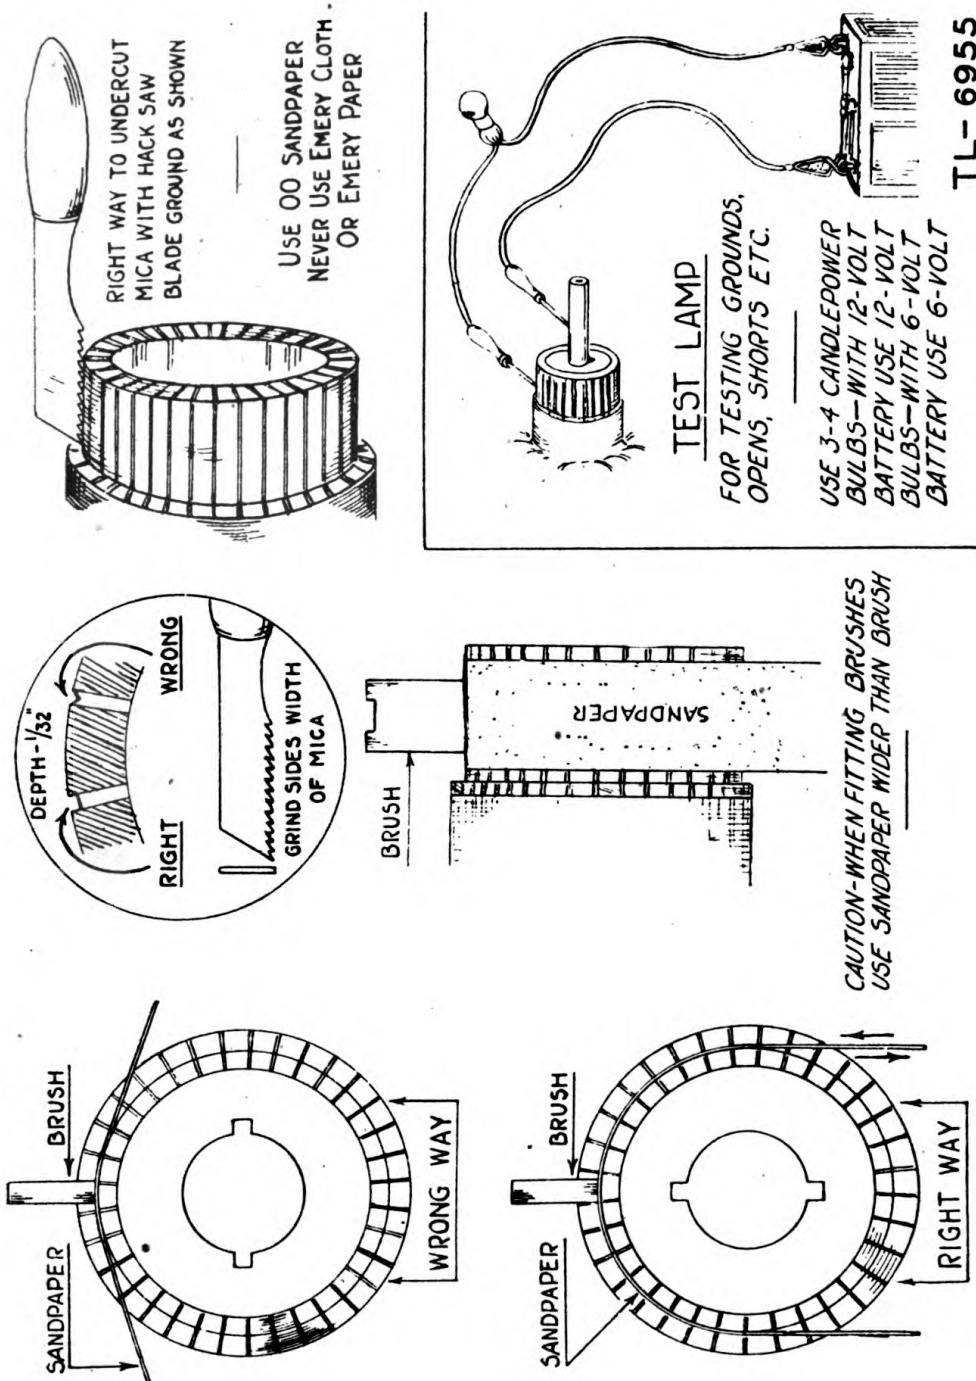

Figure 10.—Brush and commutator servicing
f. Mica is used for insulation between the commutator segments. When the armature is constructed, the mica is cut away, or under cut, to a depth of about 1/32 inch below the surface of the segments. In time, the segments will wear down to the level of the mica. If the mica is even with, or projects above, the commutator segments, it should be cut away (under cut) to a depth of about 1/32 inch (see figure 10). A broken hack saw blade, with the sides ground to the width of the mica, is a good tool for this purpose.
i. To fit new brushes, or reseat old ones, cut a strip of No. 00 sandpaper the width of the brush. Insert the sandpaper with the brush resting on the sanded surface and pull it in the direction of rotation. Do not pull it back and forth. Repeat this operation until the brush is properly seated. See figure 10. The spring tension should be sufficient to press each brush against the commutator with uniform tension. It is very important that each brush have an equal pressure. If one of the springs is too weak, the opposite brush will have to take more than its share of the load, and sparking and damage to the commutator and collector rings will result. NOTE: In general, the above instructions also apply for the battery-charging generator.